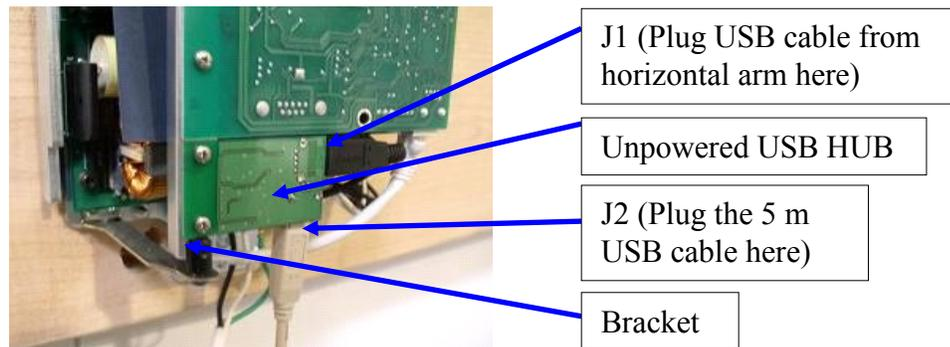

Figure 12
9. Plug the USB cable from the horizontal arm into J1 of the unpowered USB Hub (see Figure 12 on page 13).
10. Connect the 5 m USB extender cable (part #E1-13047) to J2 of the unpowered USB Hub (see Figure 12 on page 13).